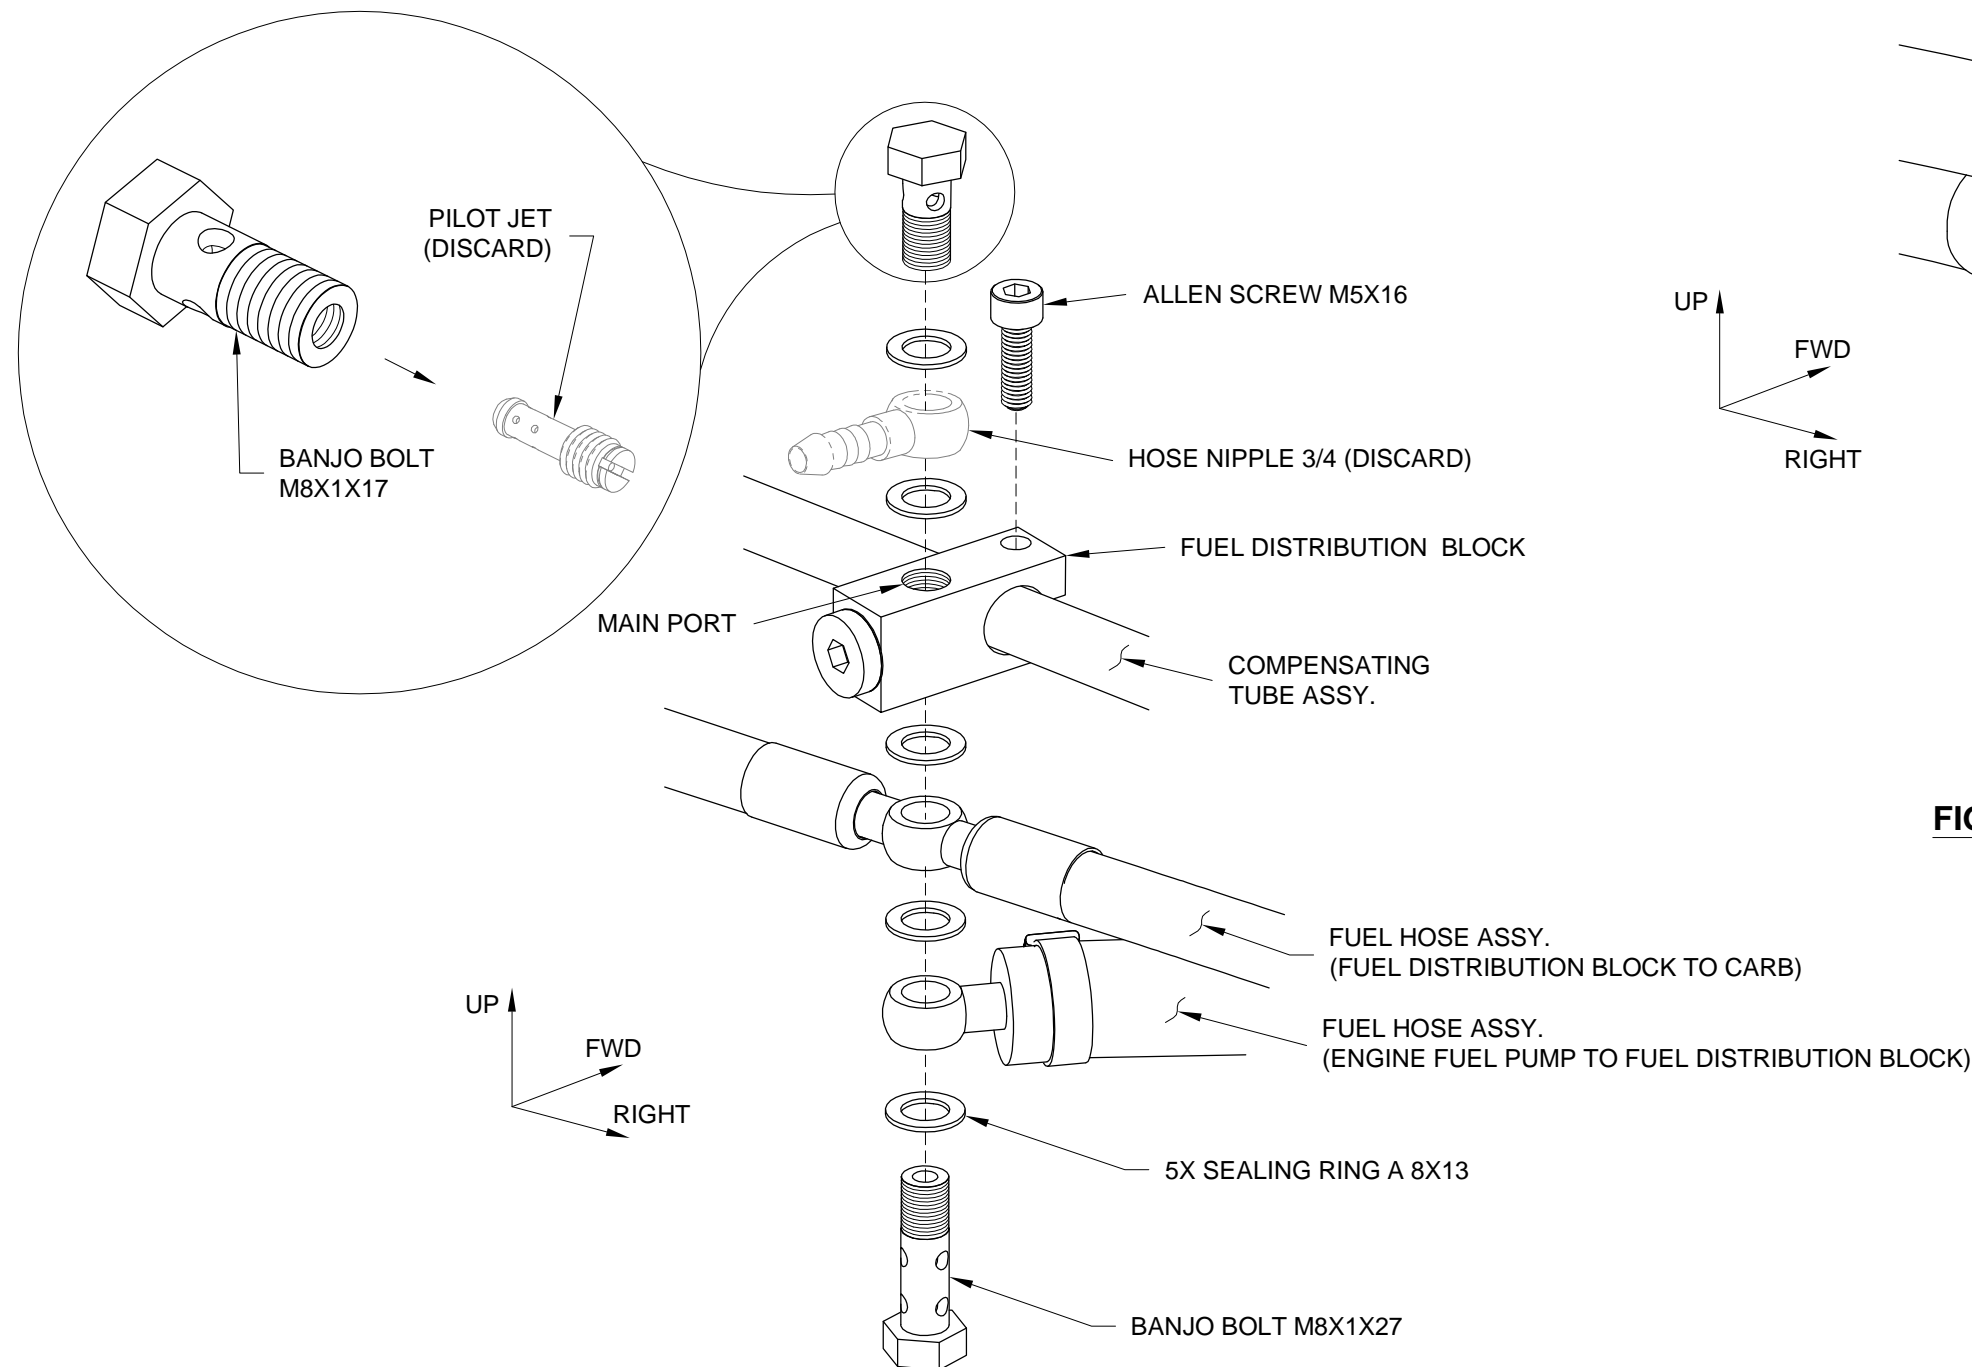

FIGURE 1: DISASSEMBLE FUEL HOSE ASSEMBLY
Step 4: Remove the pilot jet from the banjo bolt M8X1X17 as shown in Figure 1 and discard.
Step 5: Attach the fuel hose assy. (fuel distribution block to carb) and the fuel hose assy (pump to fuel distribution block) to the fuel distribution block as shown in Figures 1 and 2.